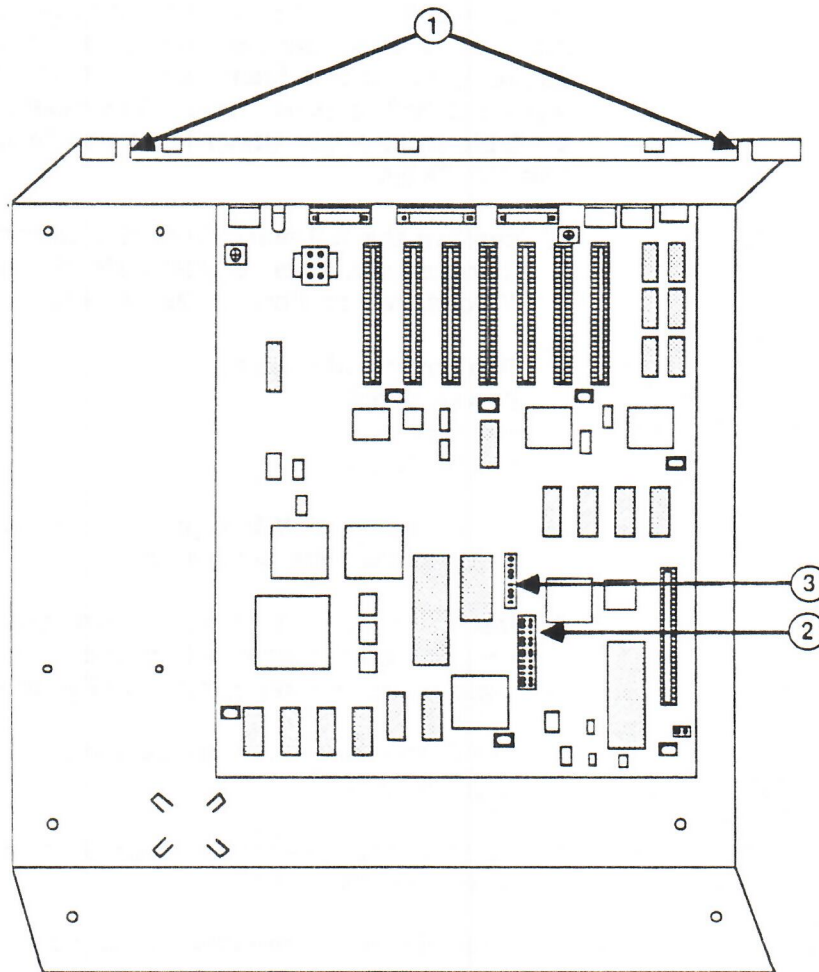
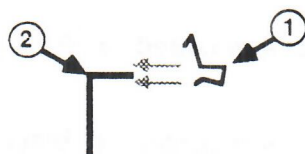

FIGURE 5
FIGURE 6
11. Install the shielding strip on the rear of the bottom pan between the two notches (Figure 5, #1). Figure 6 shows a side view of the shielding strip (Figure 6, #1) being slid onto the rear lip of the bottom pan (Figure 6, #2).
15. Connect the keyboard cable to its socket on the logic board (see Figure 5, #2).
- Note:** If the customer has an Apple IIe Numeric Keypad, plug it into the connector shown in Figure 5, #3.